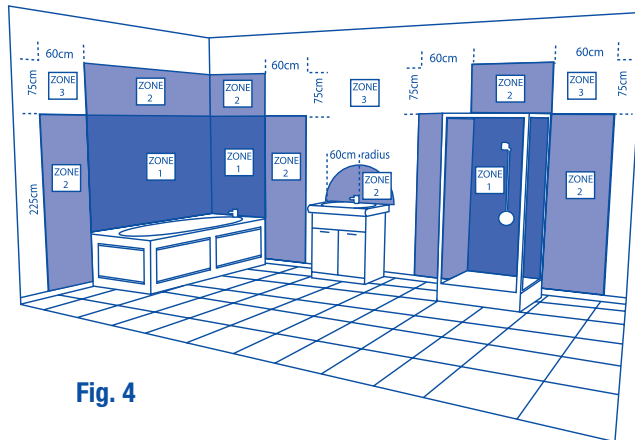

Fig. 4
- IP65 rated luminaires are protected against dust and jets of water. They are suitable for installation in locations containing a bath or shower, as defined by the I.E.E Wiring Regulations, Zones 1, 2 & 3 where water jets are likely. See Fig.4 below.